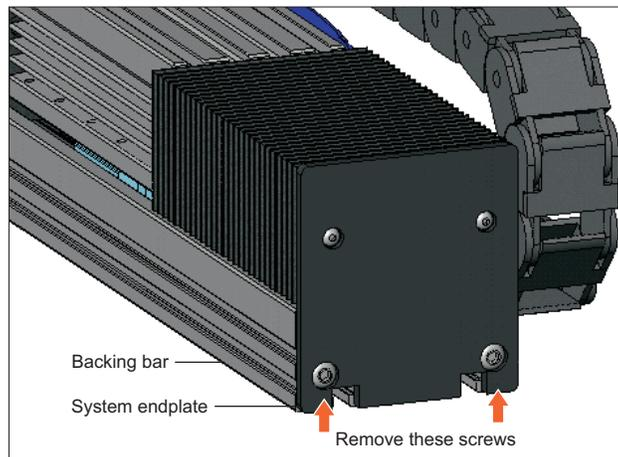

Figure 3.8
- Remove the two M6 button head fixings securing the bellows system end plate to the backing bar, Figure 3.8.